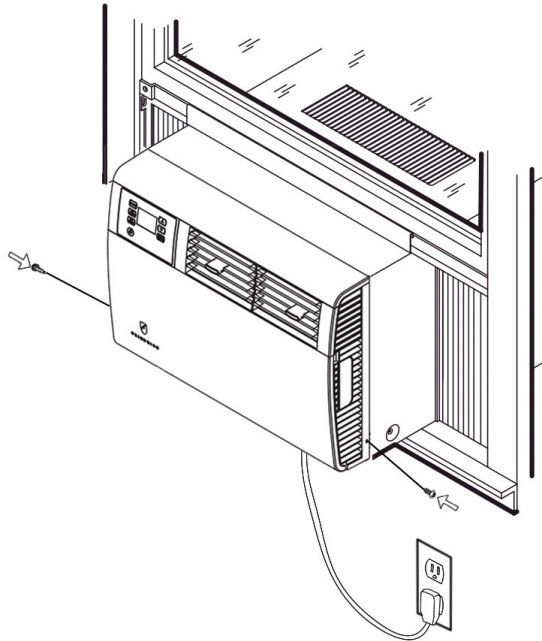

Figure 501 (Remove Entry Gard Screws)
1. Remove the EntryGard™ Screws. (Refer to Figure 501)
1. Carefully team lift the chassis and set it into the cabinet. (Refer to Figure 501)